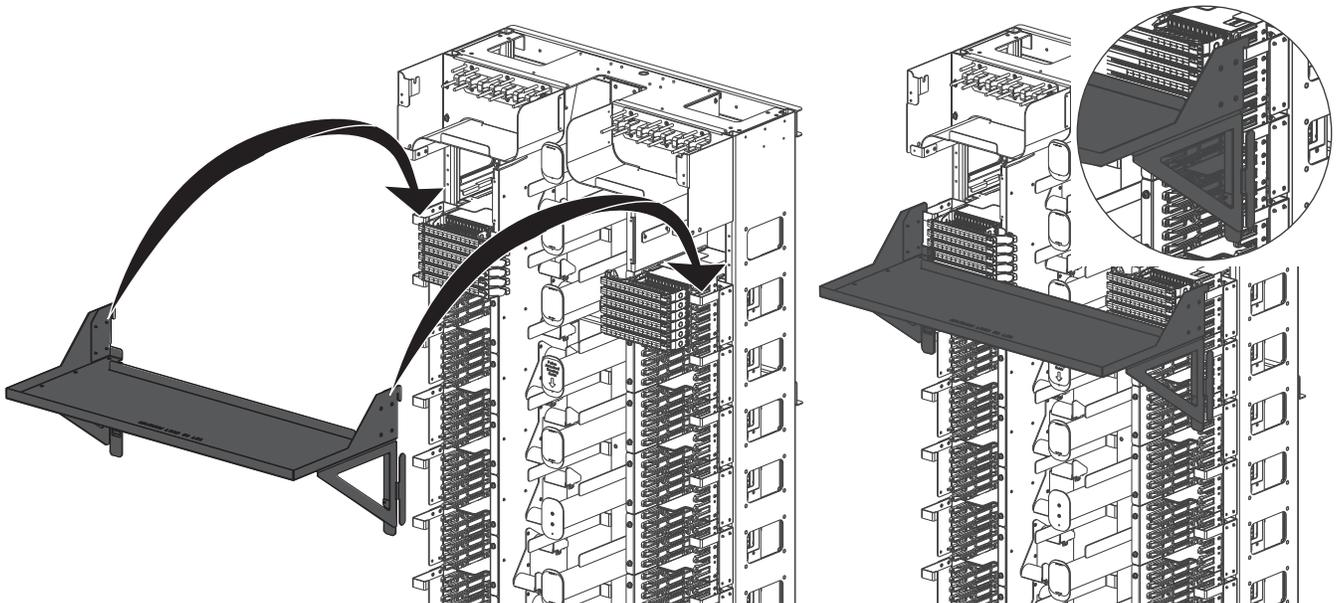

Figure 5 — Using Workshelf with Housings in Frame
Hook the flanges on the workshelf over the front of the housing as shown in Figure 5.
- Step 2:** Install latch onto frame as shown in Figure 5.